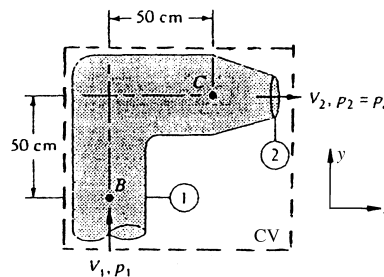

Fig. P3.121
**3.121** The pipe bend of Fig. P3.121 has  $D_1 = 27$  cm and  $D_2 = 13$  cm. When water at  $20^\circ\text{C}$  flows through the pipe at 4000 gal/min,  $p_1 = 194$  kPa (gage). Compute the torque required at point  $B$  to hold the bend stationary.